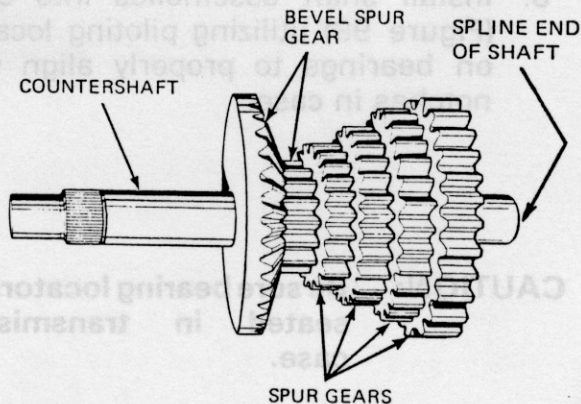

Figure 96
4. Assemble the countershaft as follows (Figure 96):